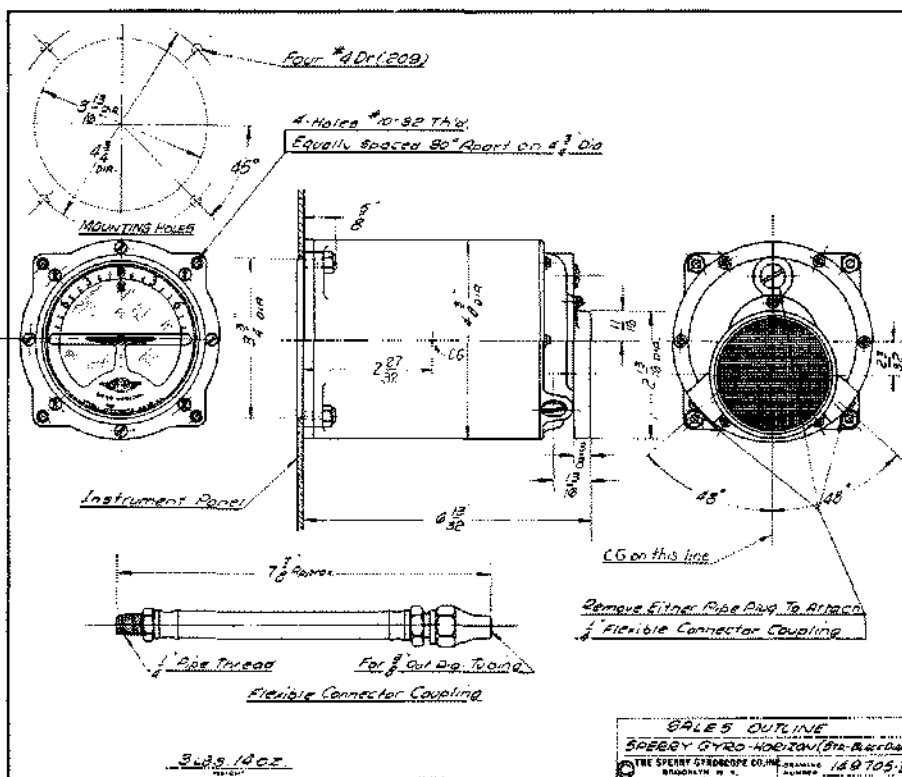

FIGURE 51 OUTLINE DRAWING OF THE STANDARD GYRO-HORIZON
2. Make sure that the holes in the panel are large enough to permit the instrument to be inserted and fastened without binding. (See outline drawings, Figs. 51 and 52.)